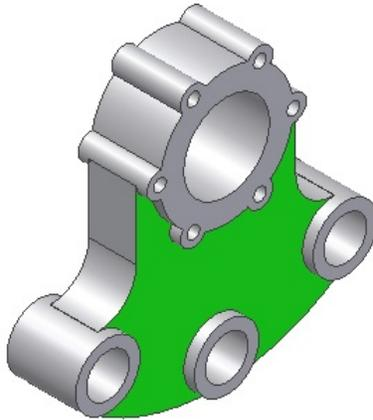

Figure 6-142 Final model
- f. Finally, create the central hole, refer to Figure 6-142.
5. Choose **OK** to create the hole and exit the dialog box. The isometric view of the final model for Tutorial 3 is shown in Figure 6-142.